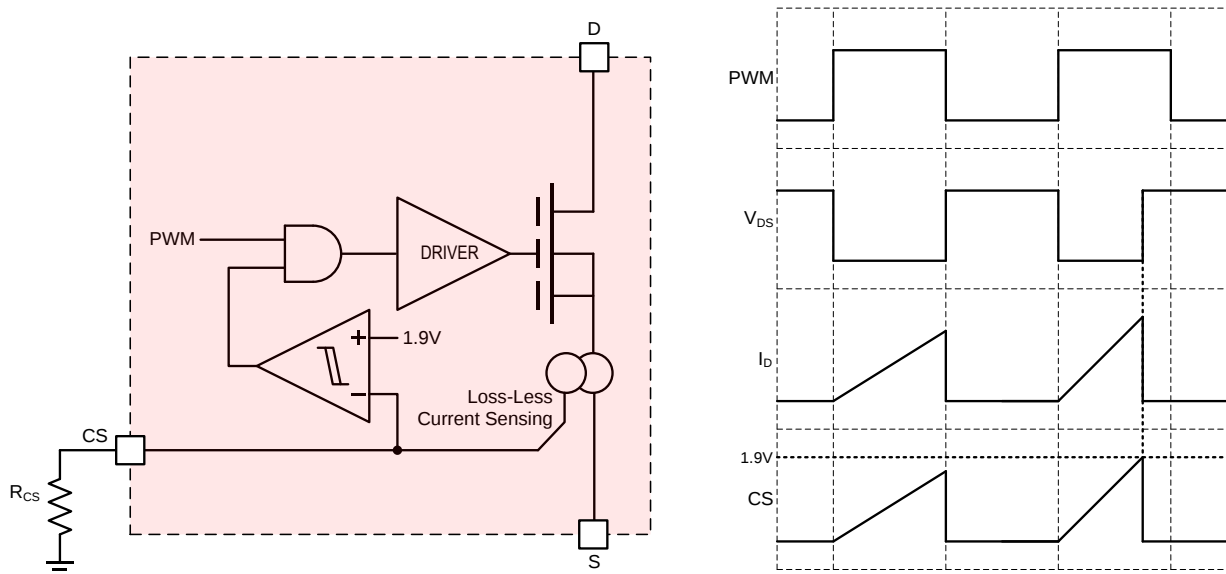

Fig. 21. Current Sense Circuit and Timing Diagram
In many systems implemented with a peak current mode control or over current protection (OCP) functions, the current flowing through the power FET needs to be sensed. To sense the current, most solutions use a current-sense resistor in series with the FET and it increases power loss and introduces more parasitic inductance into the power loop. ISG6108 employs a current-sense circuit without any external resistor to sense the current as shown in Fig. 21. The loss-less current-sense circuit converts the current flowing through the GaN FET to the output current signal of CS pin with a conversion ratio of 2240:1 (typical). The output current of CS pin can be converted to the voltage by a resistor, R_{CS} , placed between CS pin and ground. The value of R_{CS} can be adjusted to provide the current-sense voltage with a proper voltage range for various controllers. The voltage on CS pin, V_{CS} , is determined by equation (1).
where I_D is the drain current of GaN FET. Fig. 21 shows the switching timing diagram of the current sense output.
The ISG6108 provides a cycle-by-cycle over current protection based on the current-sense signal, V_{CS} , to protect the GaN FET. As illustrated in the timing diagram of Fig. 21, when the CS-pin voltage exceeds 1.9V (typical), the GaN FET is turned off. GaN FET will be turned on again at the next rising edge of PWM signal. The current limit by OCP can be calculated by equation (2).